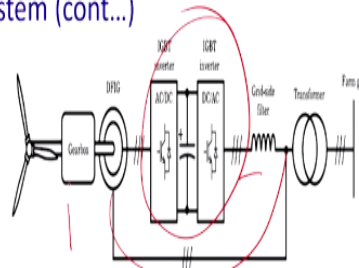

Fig.1: The DFIG wind generator concept
- The DFIG configuration consists of a wound rotor induction generator with the stator windings directly connected to the grid and the rotor windings connected to a voltage-source back-to-back power converter which transfers the extracted power (see Fig. 1).